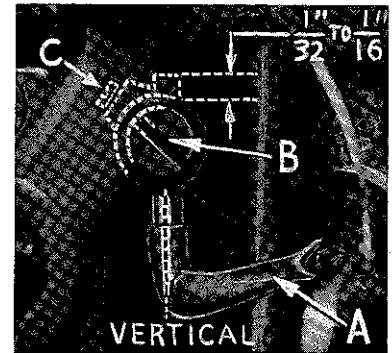

Fig. 7
its shank. Insert spreader holder into spreader shaft, if it is not already in place. Screw (C, Fig. 7) on clamp collar holds spreader holder in the shaft, and allows holder to be rotated or adjusted laterally.
Insert spreader (A, Fig. 7) in its holder. Screw (B) holds spreader in its holder, and permits it to be pushed in or out or turned around
Preliminary Setting: When spreader is at the right end of its stroke, spreader holder should be set to position spreader shank about vertical (Fig. 7). Top end of spreader shank should extend $\frac{1}{32}$ to $\frac{1}{16}$ inch above the spreader holder (Fig. 7).